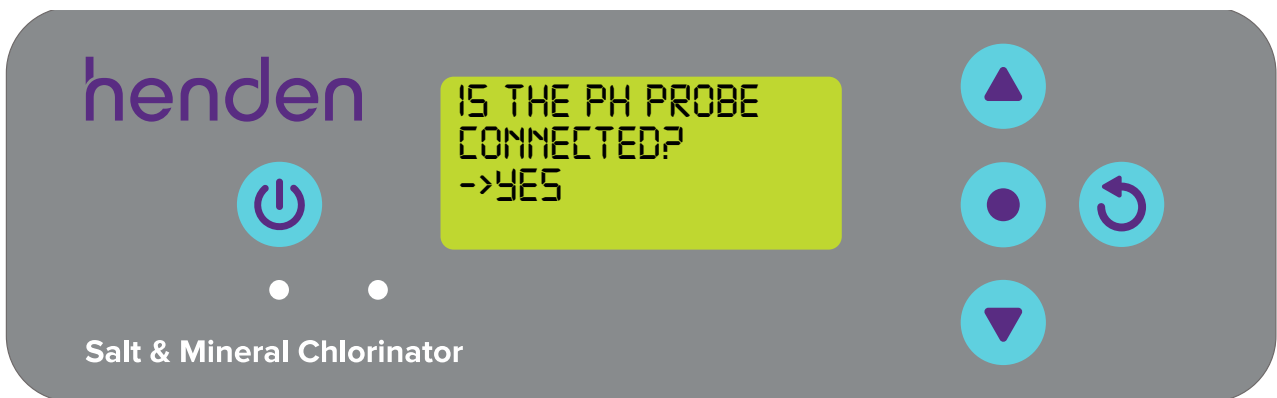

Figure 8.21
- Press the  **menu/setting select** button. The next screen will ask "is the pH probe connected?" (refer figure 8.21)